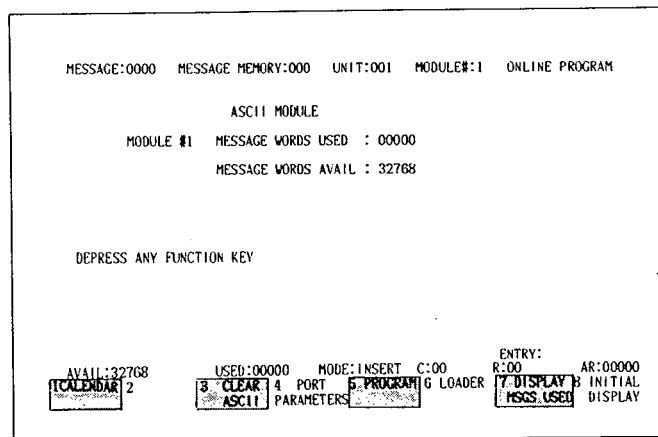

Fig. 7.18 Supervisory Display
Depressing **SUPERVISORY** key after ATTACH activation produces the display shown in Fig. 7.18, enabling the SUPERVISORY operations indicated in the label area.
5. When CANCEL is depressed instead of CONFIRM, nothing is executed, and the supervisory display (Fig. 7.18) is called up again.
- When **DISPLAY MSGS USED** is depressed in the supervisory display (Fig. 7.18), "READING USED MESSAGE NUMBERS" is displayed.
- Depressing **PREVIOUS MENU** calls up the supervisory display (Fig. 7.18) again.
- If CANCEL key is depressed instead of CONFIRM key, nothing is executed, and the supervisory display (Fig. 7.18) is called up again.